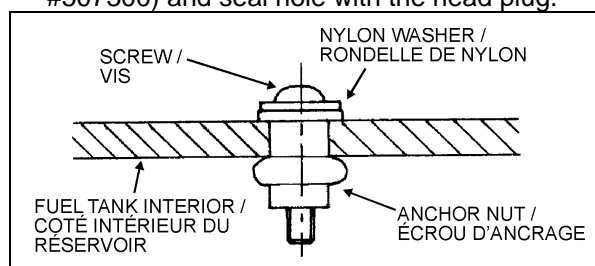

FIGURE 14: FUEL TANK REPAIR
5. Place assembly in drilled hole. Tighten screw by 10 complete turns. Refer to Figure 14.